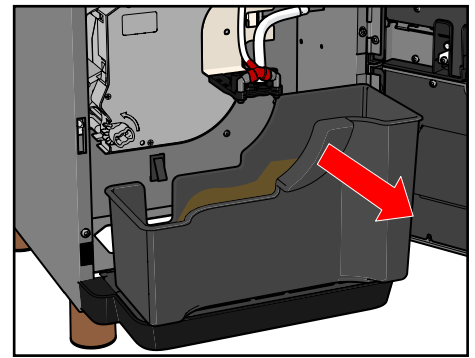

Figure 33.
3. Remove the waste bucket and empty it (see Figure 33).
18. Clean the interior of the machine (see Figure 33).